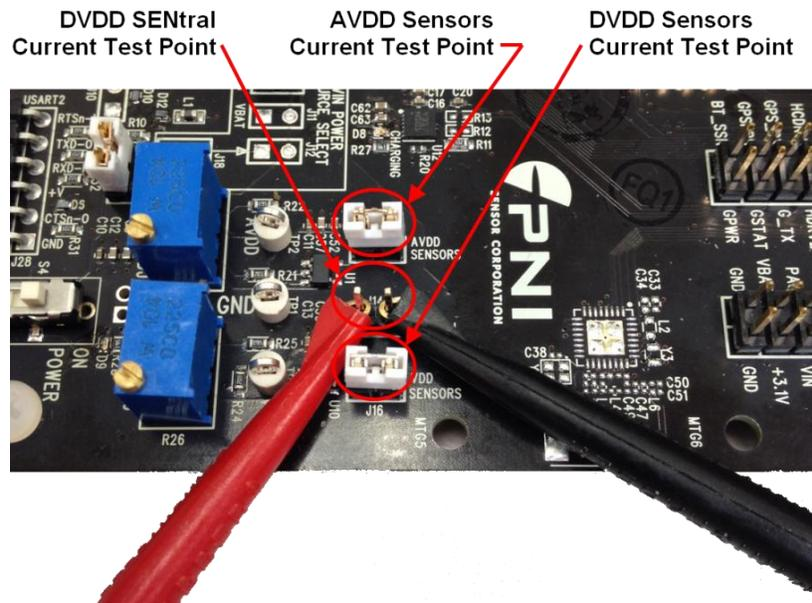

Figure 4-7: SENtral and Sensor Current Test Points
Current draw to the sensor module sockets can be monitored via the current test points located near the AVDD and VDD potentiometers. To measure current draw, remove the shunt for the current of interest and apply test leads across the jumper pins. The test point labeled “AVDD SENSORS” gives the combined AVDD current consumption for all the sensor module sockets, A through E. “VDD SENSORS” provides the combined VDD current consumption for sensor module sockets A through D, while “VDD SENTRAL” supplies the VDD current consumption for the SENtral Master Socket (E). Figure 4-7 shows the configuration for measuring the current through “VDD SENTRAL”.